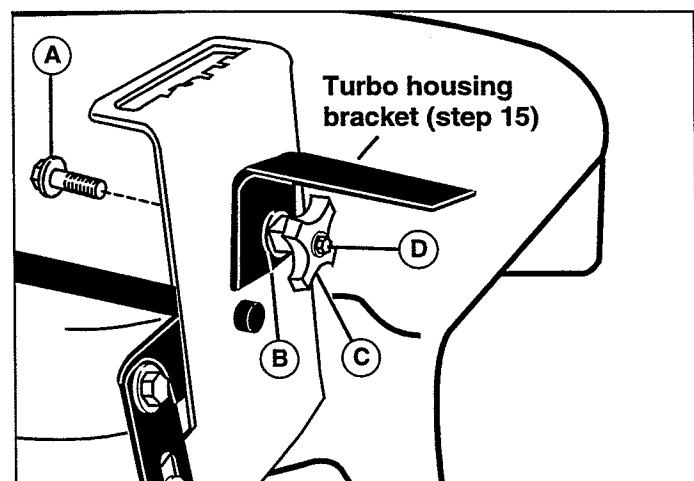
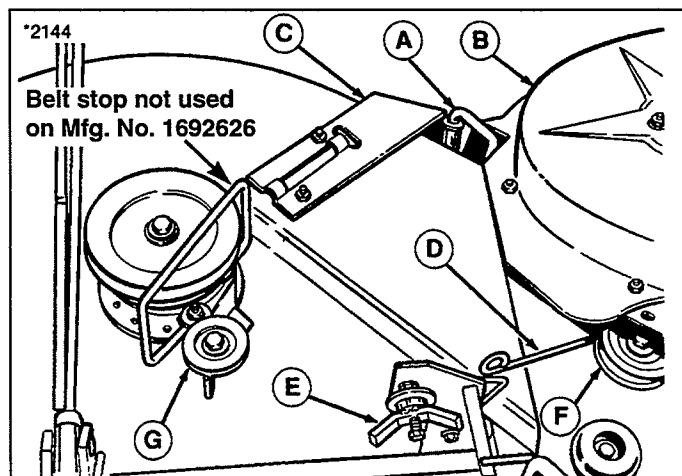

Figure 9. Mfg. No. 1692626 only.
Figure 10. Mfg. No. 1691867 shown
Mfg. No. 1692626. See figure 9. Install the capscrew (A) from inside the mower deck. Install the washer (B), knob (C) and locknut (D).
See figure 10 for steps 13 - 18.
15. Lift deflector to maximum raised position. Rotate turbo into position, making sure it fits securely over carriage bolt (A, figure 9) or wingnut assy. (E, figure 10). Make sure belt is clear of all brackets.
16. Put belt in lower groove of pulley (H), then around fixed idler pulley (G). Release the belt tension arm (D).
18. With turbo housing in position, tighten wingnut or knob (E). Put mower drive belt into top groove of double-groove pulley and on engine PTO pulley.
14. See figure 9. Install support brace assy. (A) against mower roller support with two screws removed in step 15.
15. See figure 9. Install and adjust spring latch (C) so that it overlaps the top edge of the deflector by 1/4" - 3/16", in the down position. Spring latch should hold deflector down, but deflector should be able to be rotated up by hand.
- See figure 10 for steps 17 - 23.
17. Make sure cover (F) is rotated all the way forward.